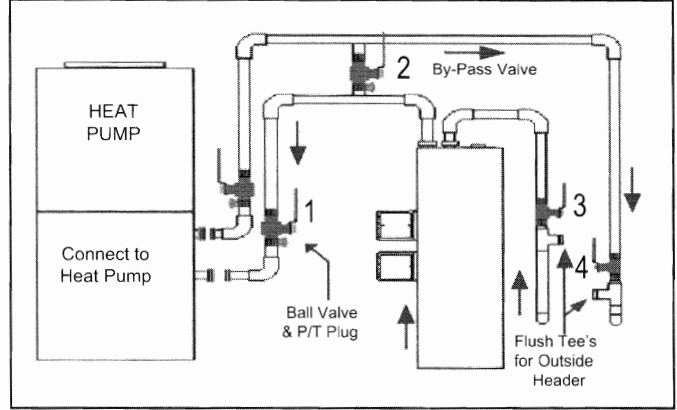

Fig. 4. Simplified Schematic (May Be Used With External Headers).
Fig. 4 shows typical piping for a system with outside headers.
1. Refer to Fig. 4, close valves 3 and 4.